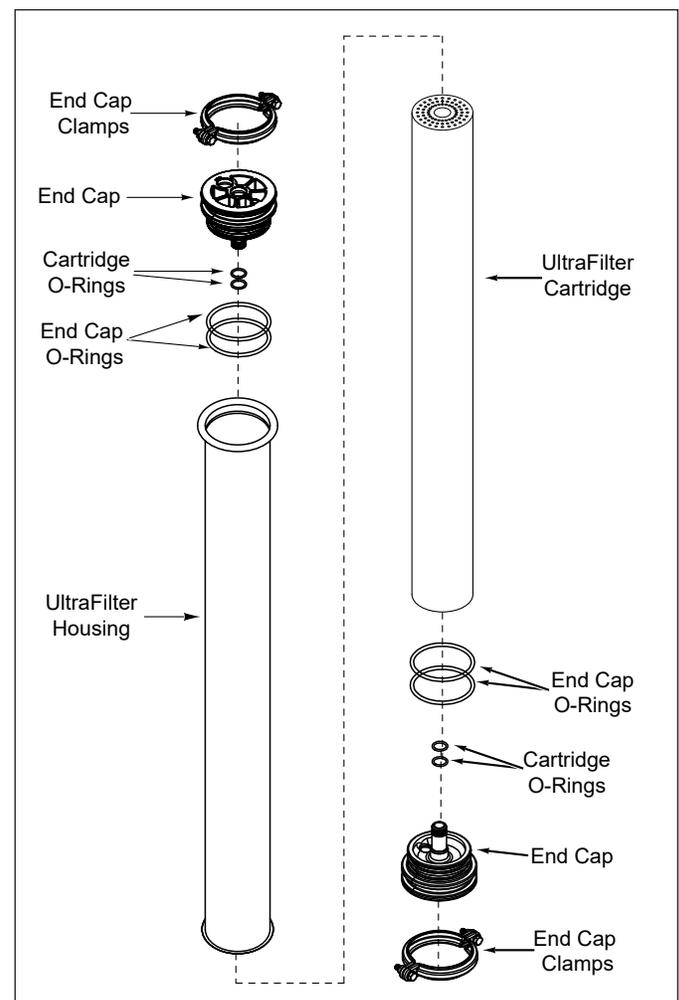

Figure 7. Replacing the UltraFilter Cartridge
3. Remove either End Cap clamp hardware from the UltraFilter Housing. (Figure 7)
4. Remove the End Cap (Figure 7) from the UltraFilter Housing.